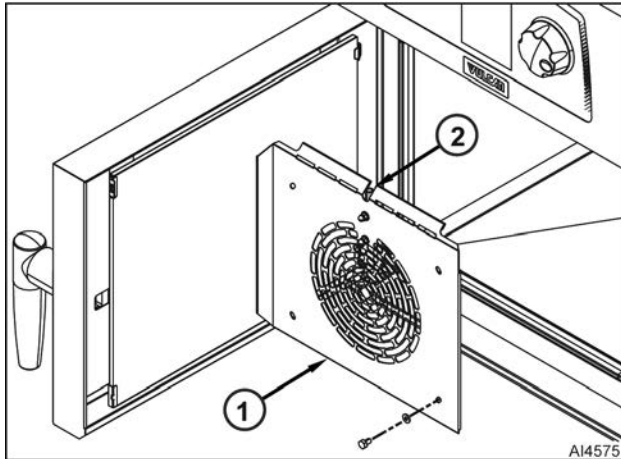

Fig. 25
**NOTE:** Pull baffle plate out from bottom so water dispenser tube (2, Fig. 25) disengages from fluid manifold.
2. Remove bolts, washers, and baffle plate (1, Fig. 25) from oven cavity.